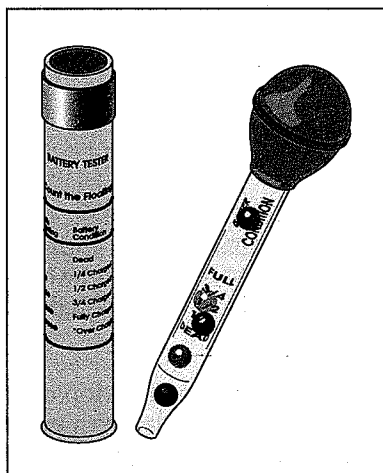

Figure 3-7:
8. If you've been having trouble starting your car, if your headlights seem dim, or if the battery is old and has bars or caps that you can remove and look inside, buy a battery tester (see Figure 3-7) and use it to check whether the battery acid concentration is high enough.